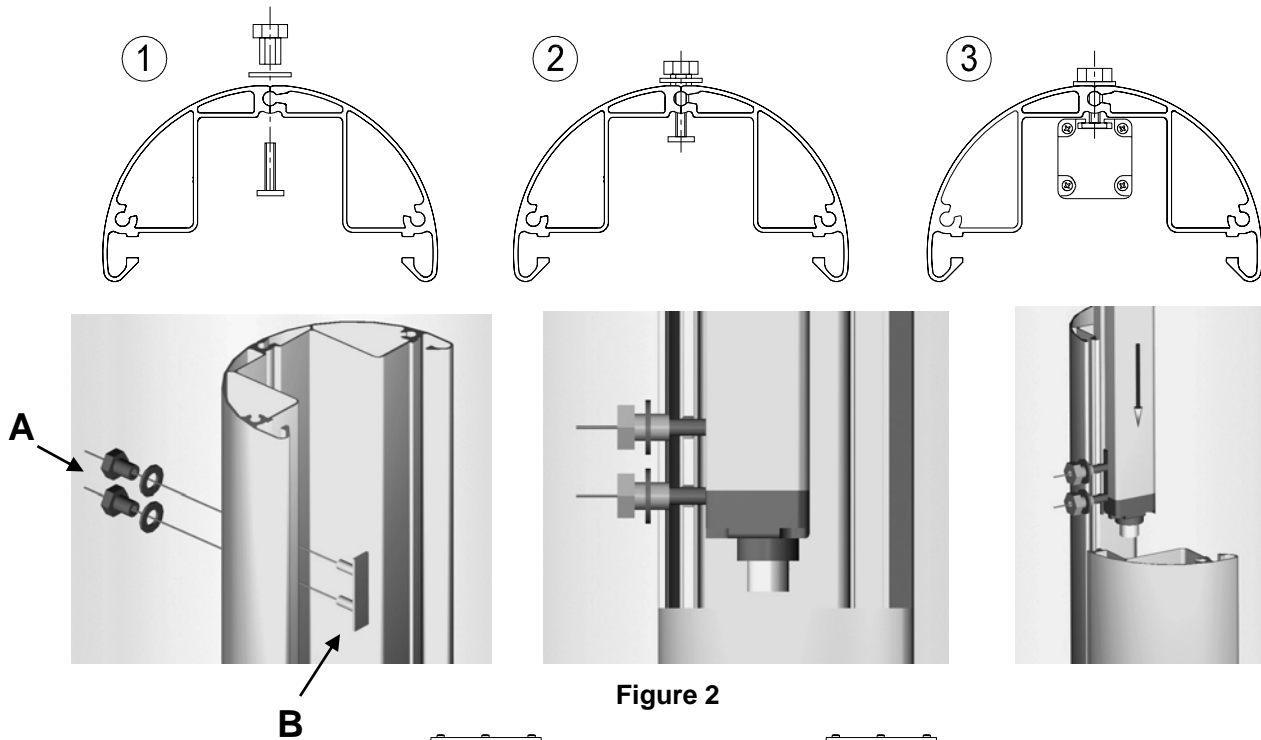

Figure 2
- Insert the hexagonal-head screws (**A**) in the holes of the column *fig.2 step 1*;
- Turn the hexagonal-head screws once to inserts (**B**) *fig.2 step 2*;
- Insert the barrier from the top into the column, (make sure that all the inserts slide in the slot on the back of the barrier, *fig.2 step 3*);